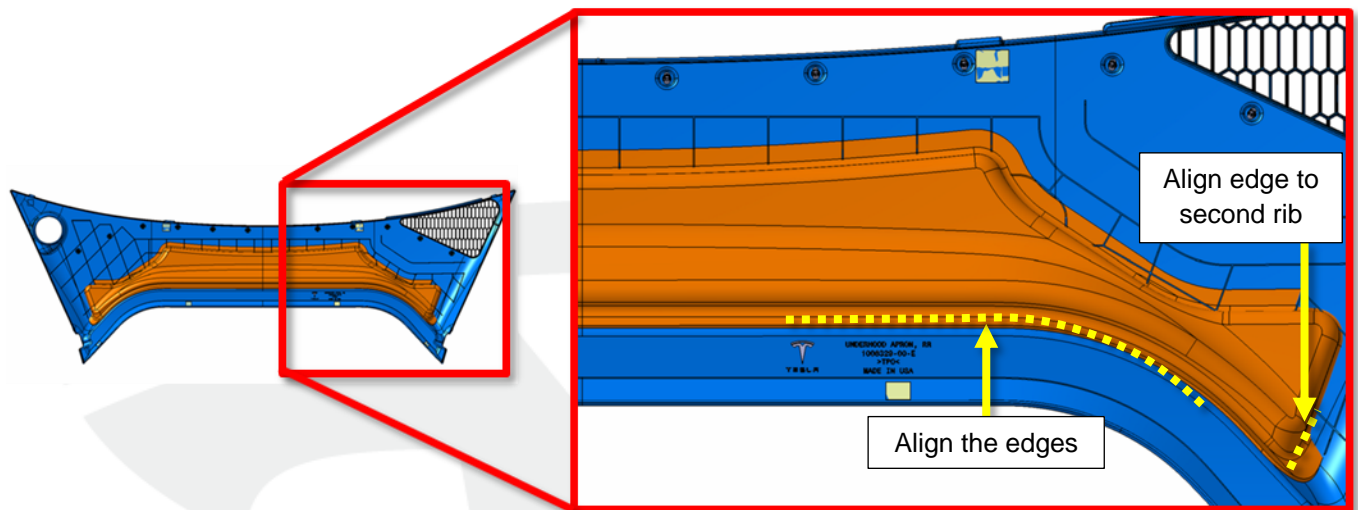

Figure 6 (acoustic absorber highlighted)
10. Remove the backing from the new rear apron acoustic absorber and press it onto the apron. Use the guidelines in Figure 6 to accurately align the absorber.